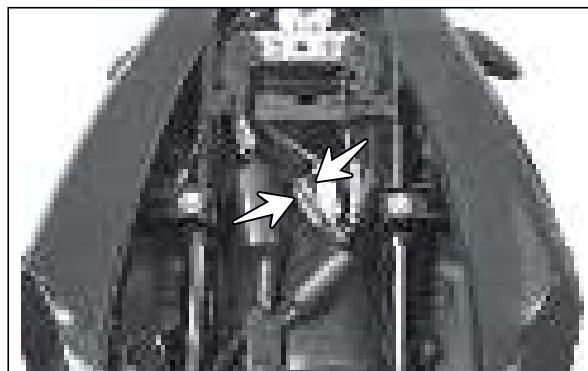

Fig. 5.86
- Disconnect the number plate lamp couplers from the main wiring harness. (Fig. 5.86)